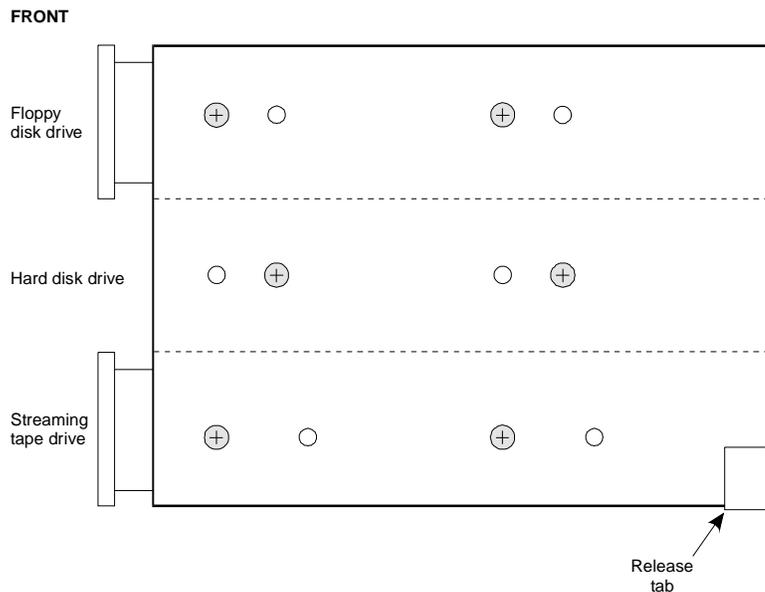

Figure C-15. Release Tab Location on the Peripheral Bay (Drive Housing)
To remove or replace the peripheral bay, use Figure C-15 and steps below.
3. Locate the locking tabs as shown in Figure C-15. Using the tip of a screwdriver, pull the tabs out until you can lift the rear of the peripheral bay.
3. Refer to Figure C-15. Remove the two screws on each side of the drive housing that secure the floppy diskette drive tray. Set aside for use again.